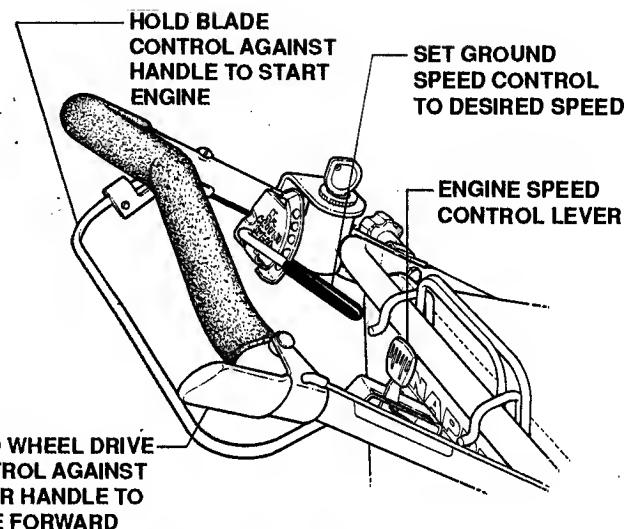

FIGURE 2.2
4. Turn ignition key to "START" position and hold until engine starts, then release. See Figure 2.2.